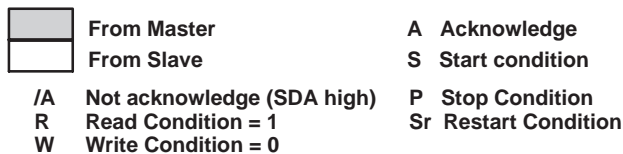

Figure 13. I²C Read Cycle
The transmitting device must not drive the SDA signal during the acknowledge cycle so that the receiving device may drive the SDA signal low. The master indicates a not acknowledge condition (/A) by keeping the SDA signal high just before it asserts the stop condition (P). This sequence terminates a read cycle (see Figure 13).